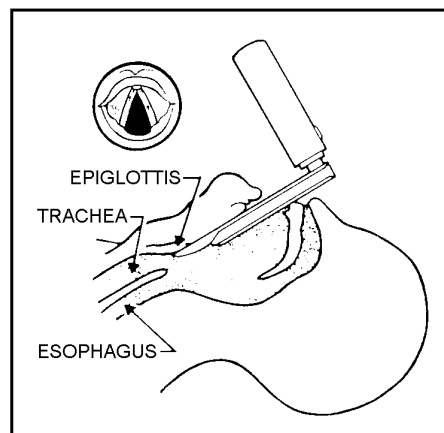

Figure 3-66
6. Retract the epiglottis and inspect the vocal cords. (See Figure 3-66.)